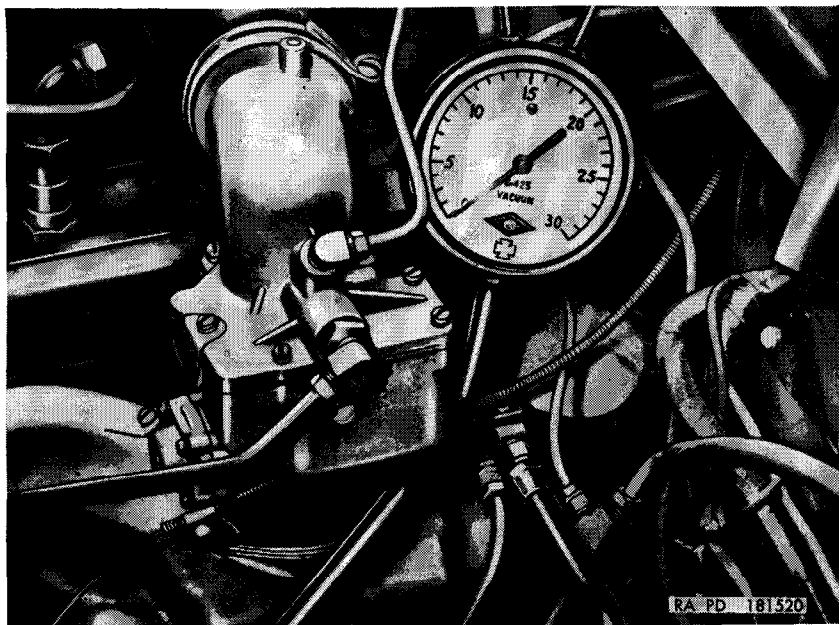

Figure 22. Testing engine vacuum.
- (6) *Faulty engine vacuum.* Perform engine vacuum test as follows—disconnect fuel and vacuum pump vacuum line at elbow located on exhaust manifold, and install vacuum gage adapter in elbow (fig. 22). Start engine and run at idling speed until minimum operating temperature (160° F.) is reached. Make sure the carburetor is adjusted properly. Adjust if necessary (par. 127). With engine operating at normal idling speed, vacuum gage should show a reading of 18 to 21 inches of mercury. A pointer fluctuating between 10 and 15 inches of mercury may indicate a leaking valve or defective cylinder-head gasket. An abnormally low reading with the pointer steady may indicate a leak at the carburetor. Accelerate and decelerate engine rapidly. Vacuum should drop to approximately 2 inches of mercury with rapid acceleration, and should rise to 24 inches of mercury as acceleration is decreased quickly.